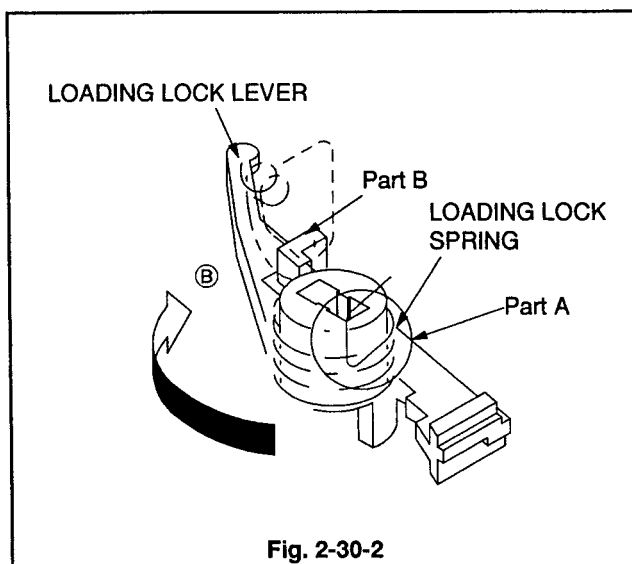

Fig. 2-30-2
1. Attach the LOADING LOCK SPRING shown in Fig. 2-30-2 to the LOADING LOCK LEVER.
2. Move the Part A of the LOADING LOCK SPRING, shown in Fig. 2-30-2, in the direction shown by arrow (B). Hook the Part A of the LOADING LOCK SPRING on the Catch of the Part B of the LOADING LOCK LEVER.